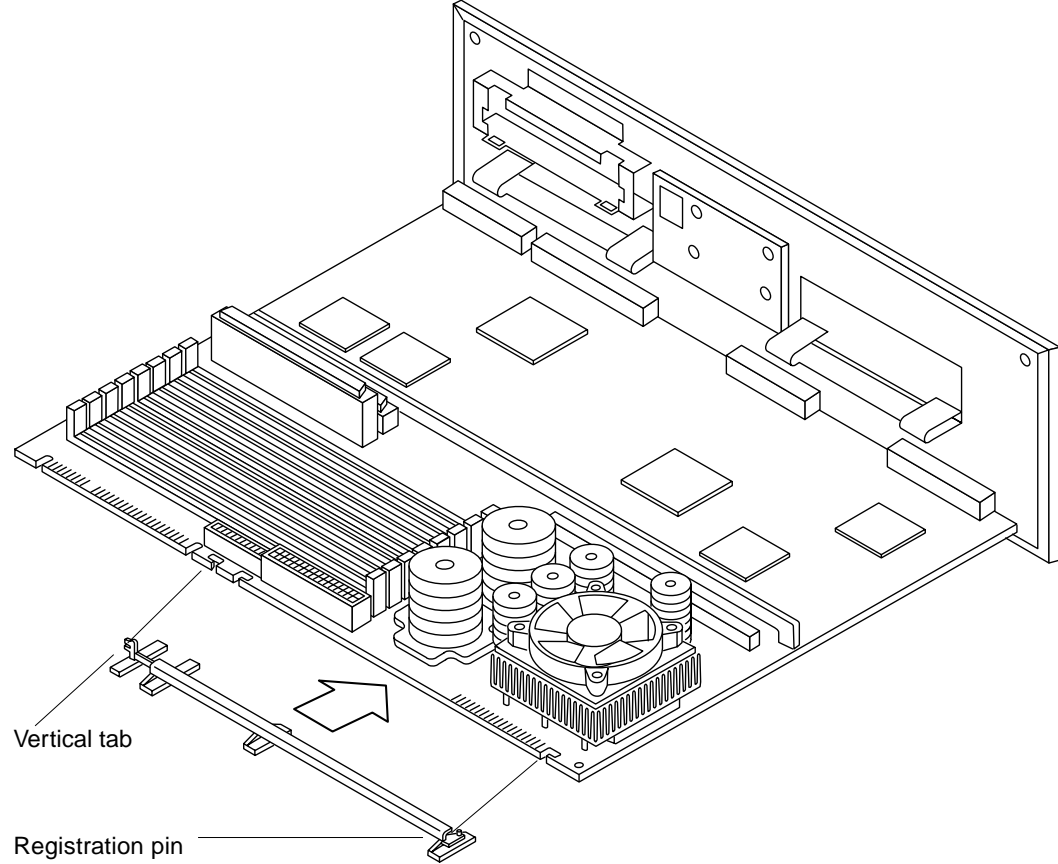

Figure 3-2 System Motherboard and Front Card Guide.
3. Install the front card guide on the Sun Ultra 1 Model 200E Series motherboard (Figure 3-2).
- a. Insert the vertical tab on the far left of the front card guide into the slot at the front edge of the motherboard (Figure 3-2).**
- b. Swing the front card forward until the registration pin on the far right side of the front card guide clicks into engagement with the motherboard front edge slot shown in Figure 3-2.**